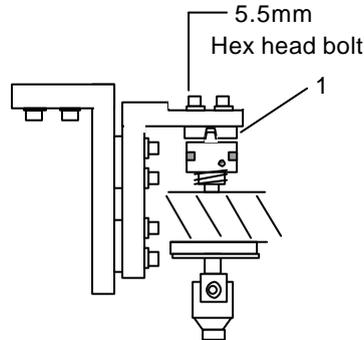

Figure 8
11. Loosen the two 5.5mm hex bolts above the third station clutch (Fig. 8).